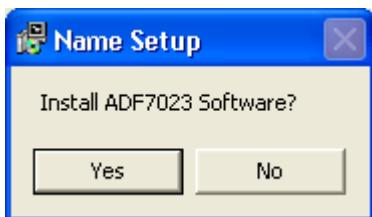

Figure 2
3. Click on “Yes” to install the software (Figure 2).